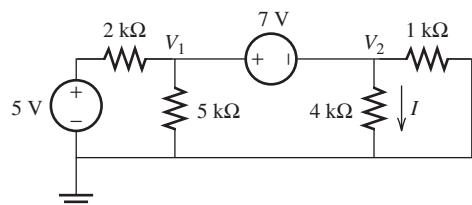

FIGURE P3.51 Circuit for Problem 3.51.
- 3.51 (H)** Find I in Figure P3.51: